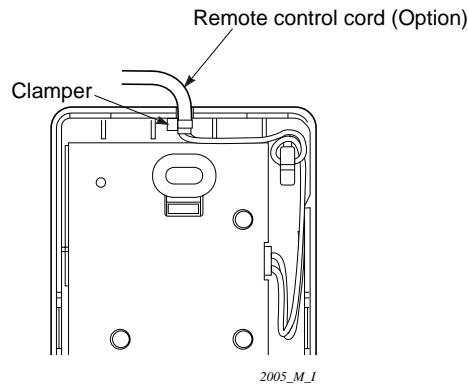

Fig. 7-17
- (5) After arranging the wiring on the printed circuit board as shown in Fig. 7-17 so that it is contained within the signal receiving unit, attach the back case. At this time, arrange so that the head of the clamber faces the side.
- (6) Remove the cover plate and install the signal receiving unit using the 2 wood screws.
- (7) Fasten to the wall using the cord clip (supplied).
- (8) Reinstall the cover plate.